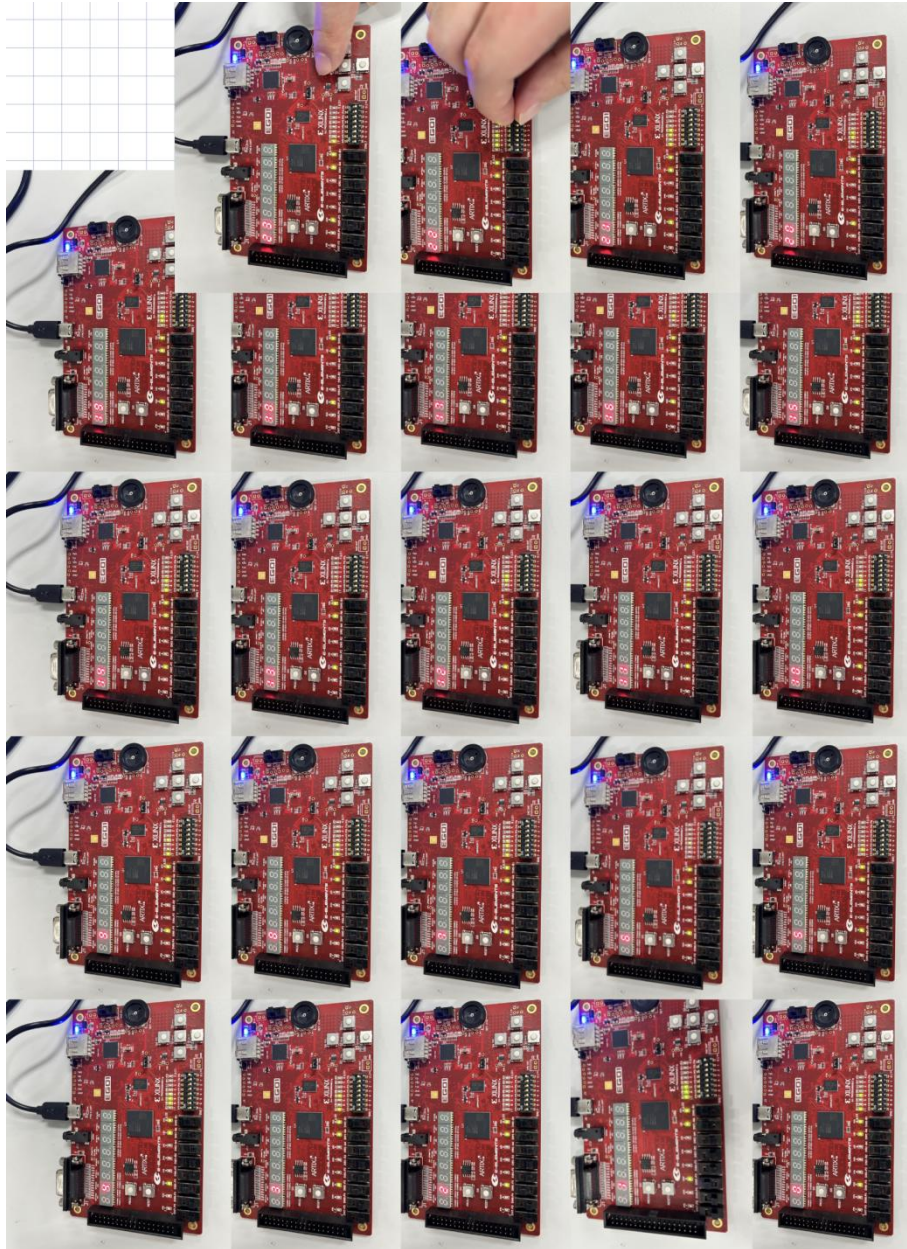

Figure 29 Result of Experiment C
As shown in Figure 29, we take 23 (0b0010, 0b0011) for example. First set the SW7-0 as 0010 0011 and then press S4 and turn SW(0) on. The counter will count down from 23 to 0. When reaching 0, it retains 0.